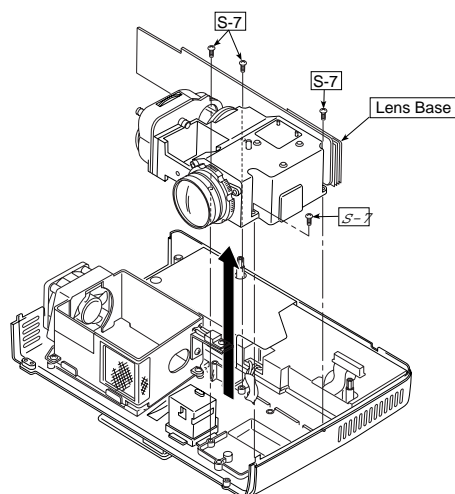

Fig. 8
- 8) Lens base (See Fig. 8.)
Remove the four screws (S-7) shown in Fig. 8, and detach the lens base.